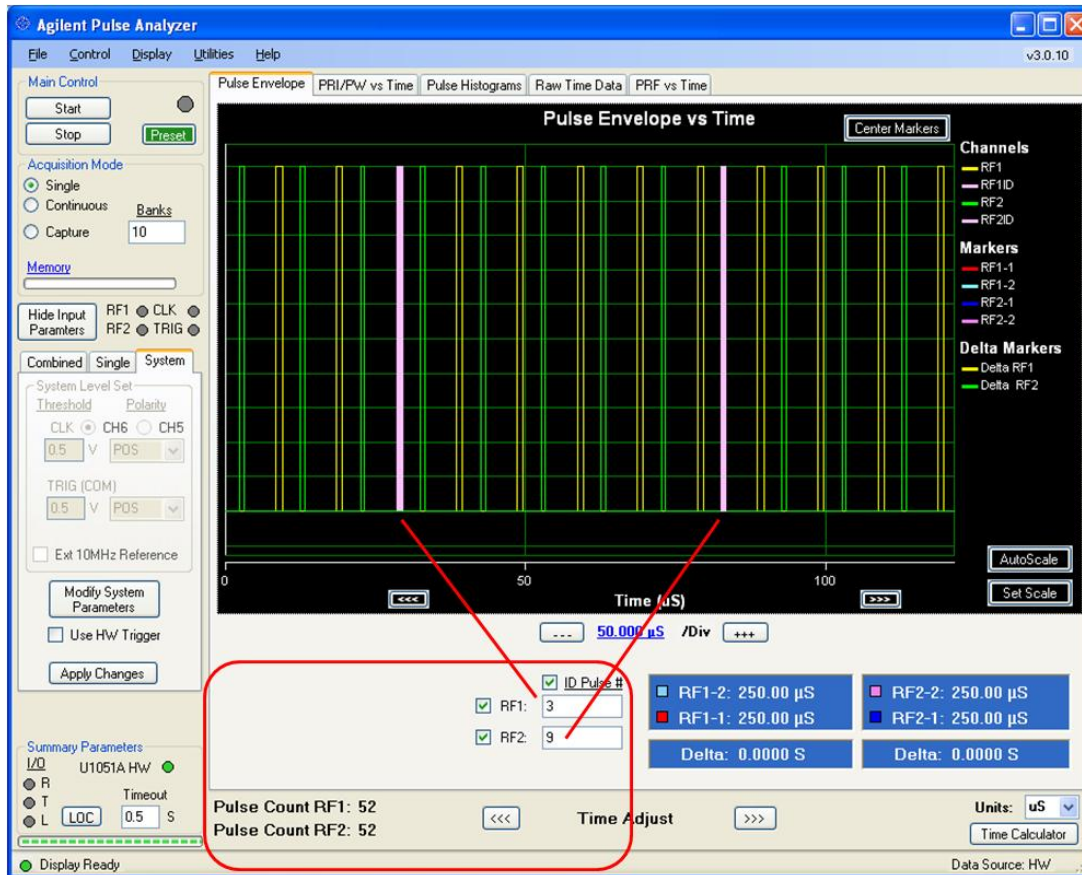

Figure 4.1-5 Envelope Display Controls and Information
**Pulse ID Feature:** The PAS software also provides a pulse identification feature which allows a user to enter in a specific pulse number and the pulse is highlighted on the display trace as shown in Figure 4.1-5 below. Notice that the 3rd pulse of RF1 (yellow) is identified and the 9th pulse of the RF2 signal (green) is also identified. Furthermore, the pulse count for each RF input is displayed in the lower portion of the GUI.
The Display Control section (Figure 4.1-5 above) displays the total pulse count that was acquired during this capture for all enabled channels (i.e. 52 pulses were collected during this measurement on both channels). This section allows the user to enable or